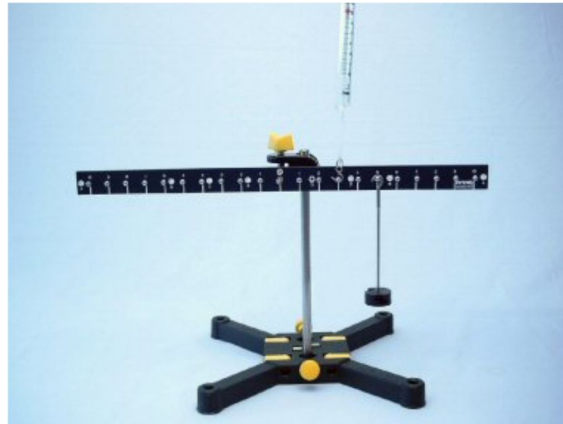

Fig. 9
- Move the spring balance successively to the 8, 6, 4 and 2 marks on the right side and measure the force  $F$  for each position of the spring balance (Fig. 9). Record all the values in Table 2 on the Results page.